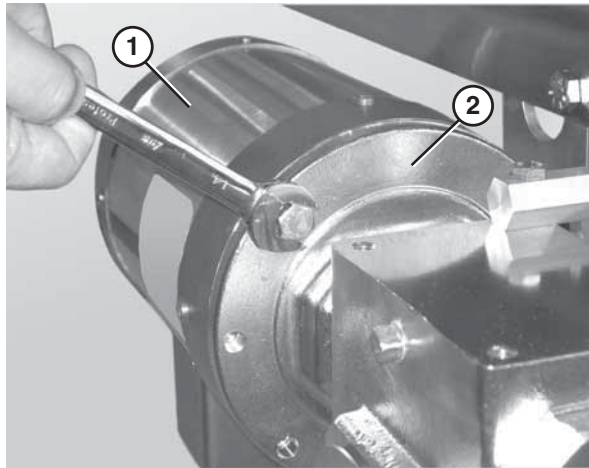

Figure 69
2. Remove the bolts that connect the motor to the drive assembly (**Figure 69**).
3. Remove the motor (**Figure 69, item 1**) from the drive assembly (**Figure 69, item 2**).